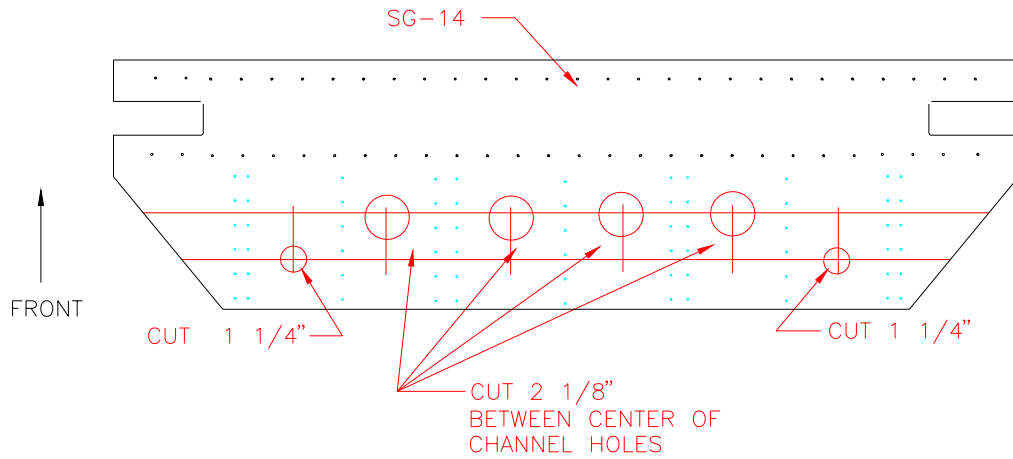

Figure 14.1.13
29) With a hole saw cut out the six holes. Four holes are 2 1/8" and two holes are 1 1/4". Figure 14.1.13.